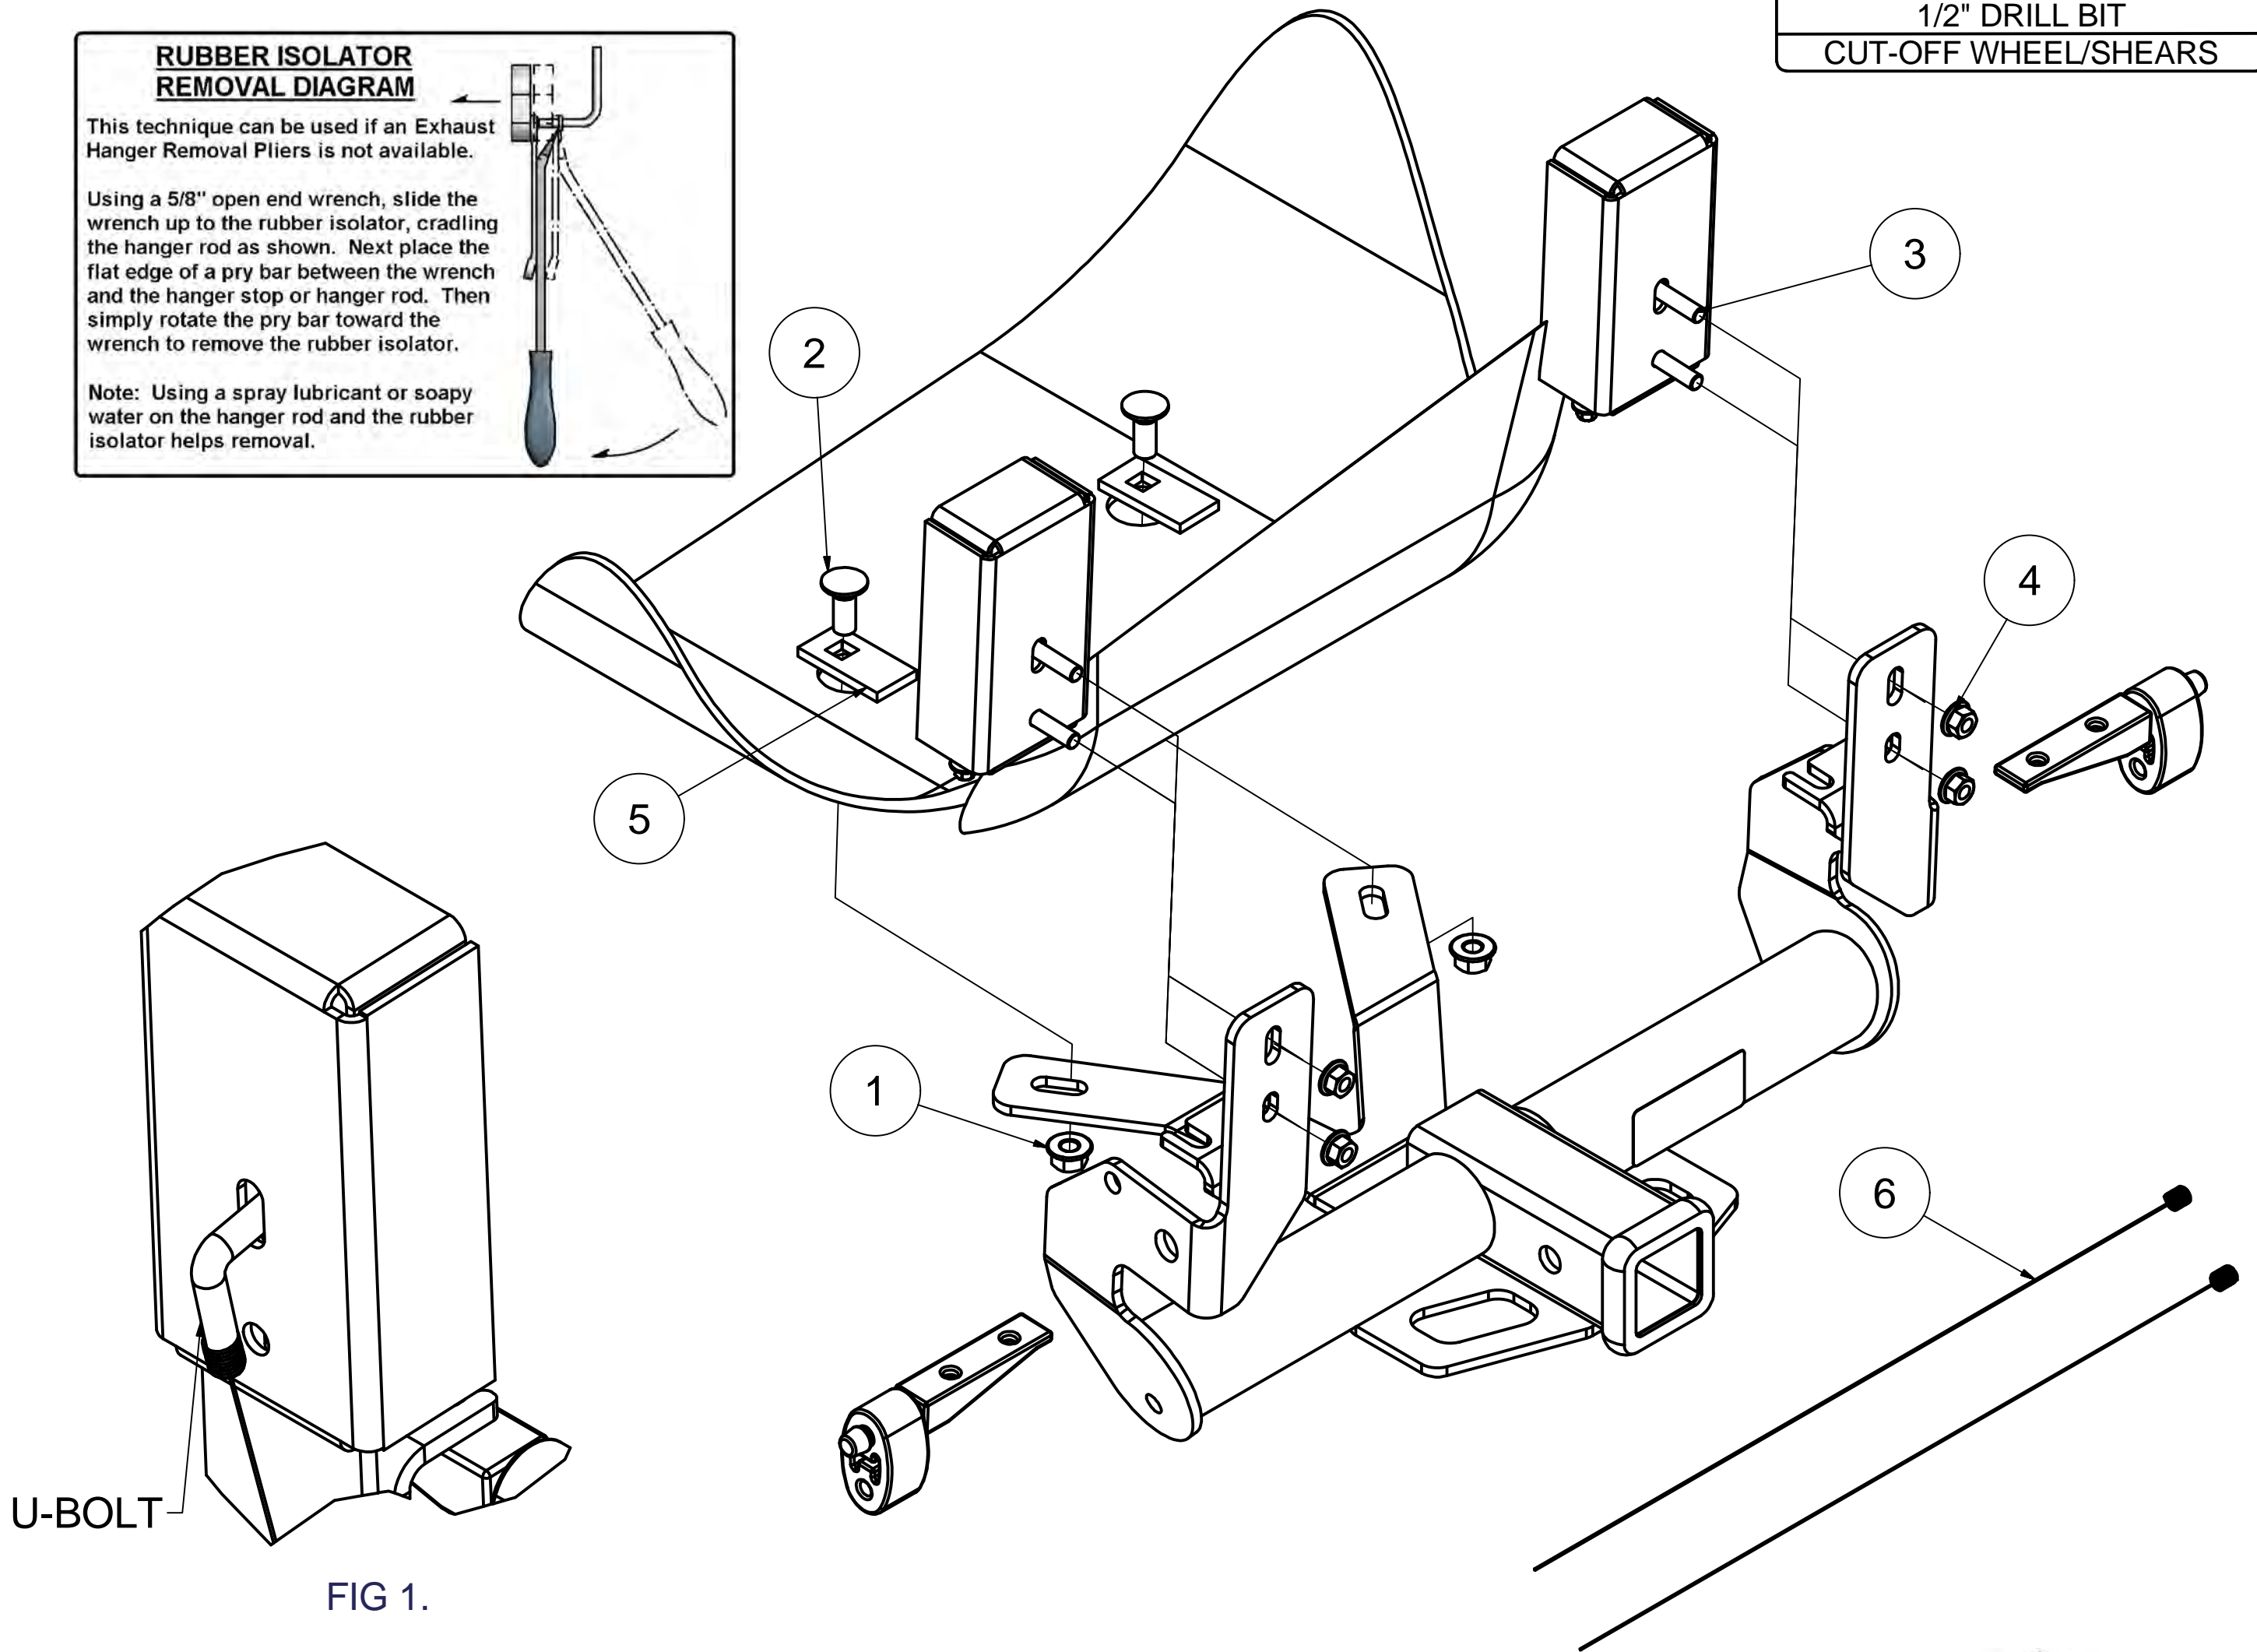

FIG 1.
1. Remove the bumper fascia by removing (4) T-20 Torx bit screws; (2) from the trunk (1) from each wheel well, and disconnect (1) snap tab on each side from the bumper to the support strap.
2. Remove lower bumper fascia by lightly pulling along the snap groove, which spans the length of the bumper and disconnect (4) sensor plugs if equipped. Set fascia aside for reassembly.
3. Lower the exhaust hanger from each side of the vehicle frame support by removing (2) 8mm bolts from each exhaust hanger bracket. Cut around the (2) trunk pan plugs and return to customer.
**Porsche models:** Remove trunk pan cover by removing (4) nuts with a 10mm socket prior to cutting around the trunk pan plugs. Return cover to customer.
4. Install the u-bolts in the frame rail support as shown in Fig 1. Resecure the exhaust bracket each side, clamping the hitch mounting strap between the frame support and the hanger bracket by replacing 8mm bolts.
5. **Porsche models:** The trunk pan mounting holes must be drilled. Open trunk to clear vehicle components for drilling. Remove floor panels and spare tire, set aside. Disconnect battery terminals with a 10mm socket, remove audio module by removing (2) T-27 Torx screws. Disconnect battery strap using a 13mm socket and extension.